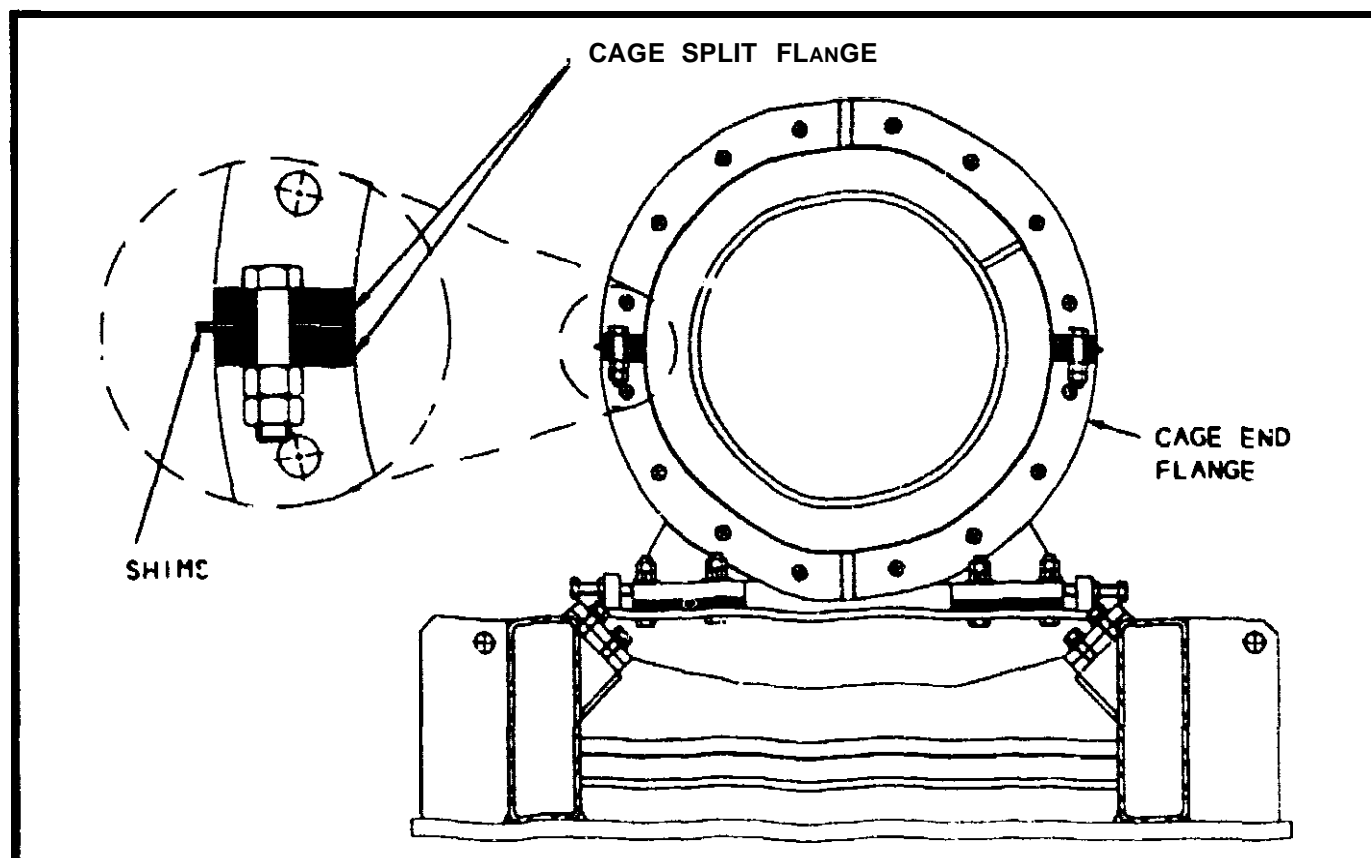

Figure 4.1-5
1. **Loosen the cage split flange bolts on the cage being adjusted.** See Figure 4.1-5. Some of the bolt holes in the shims are slotted to permit shim removal or installation **without having** to remove all **the** bolts. Only two of the bolts have to be removed to get the shims in or out.